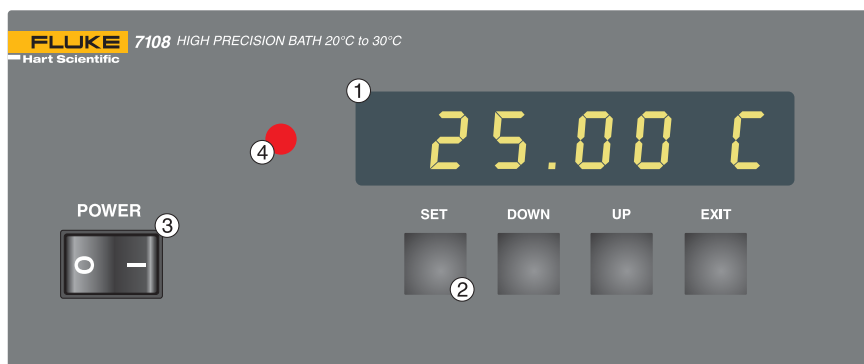

Figure 1 Front Panel
The following controls and indicators are present on the controller front panel (see Figure 1 below): (1) the digital LED display, (2) the control buttons, (3) the bath on/off power switch, and (4) the control indicator light.
(1) The digital display is an important part of the temperature controller because it not only displays set and actual temperatures but also displays various bath functions, settings, and constants. The display shows temperatures in values according to the selected scale units °C or °F.
(2) The control buttons (SET, DOWN, UP, and EXIT) are used to set the bath temperature set-point, and to access and set other operating parameters.